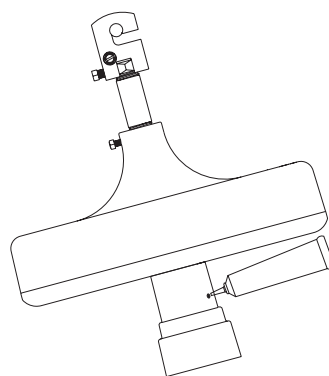

Figure 13
3. Cut the tip off the tube, tilt the fan motor as shown and place the tube into the oil hole of the switch housing. See Figure 13.